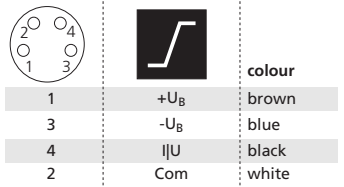

Fig. 1: Pin assignment with view onto sensor plug and colour coding of the microsonic connection cable
- Pull sensor cable through the sensor gland, connect it to the M8 sensor plug, see fig. 1.